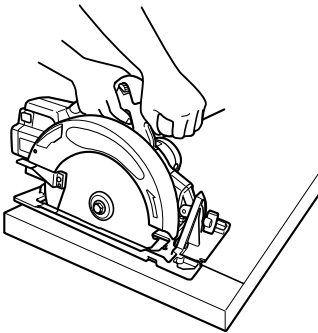
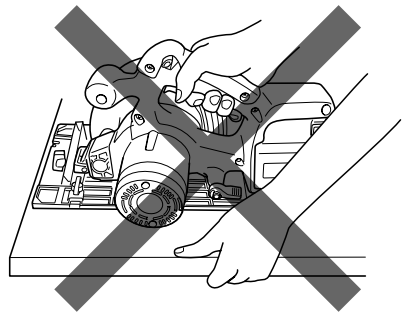

Fig. 5
Fig. 6
**13. Place the wider portion of the saw base on that part of the work piece which is solidly supported, not on the section that will fall off when the cut is made.** As examples, Fig. 5 illustrates the RIGHT way to cut off the end of board, and Fig. 6 the WRONG way. If the work piece is short or small, clamp is down. DON'T TRY TO HOLD SHORT PLACES BY HAND!